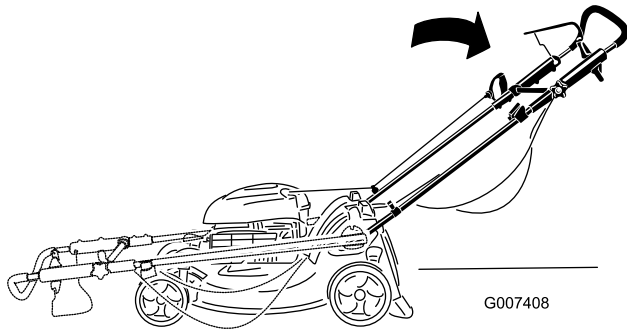

Figure 2
1. Move the handle rearward and hold the upper handle in place (Figure 2).